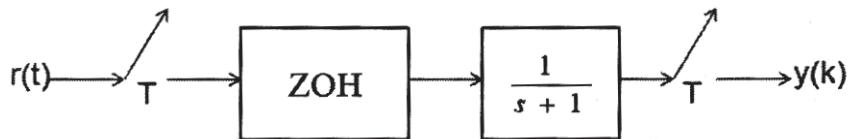

Figure 1
b) Find the pulse transfer function of system shown in figure 1. [4]